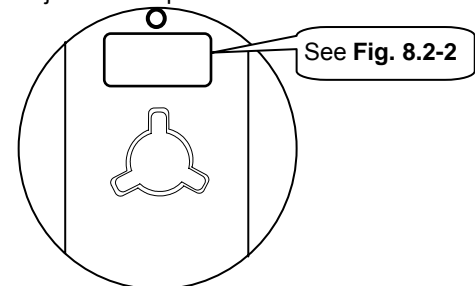

Fig. 8.2-1
1. Marking label information on reels includes (see **Fig.8.2-1~2**):